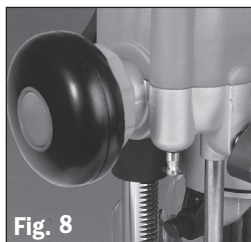

Fig. 8
1. Handle Winder Plunge depth adjustments can be made when the plunge mode selector button is flush with the handle. If engaged, press the Plunge Mode Selector button inward and allow it to spring out flush with the handle. Ensure the Plunge Lock Lever is unlocked **Fig 8**.